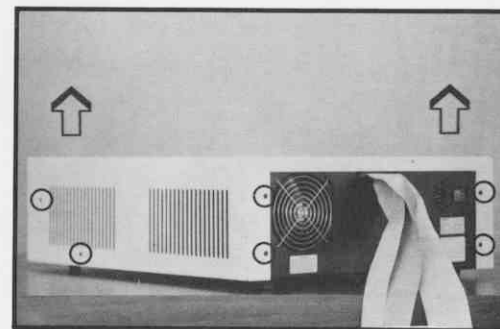

Figure 64 Outer Cover Removal
4.44 Lift the outer cover off the Subsystem unit (Figure 64).